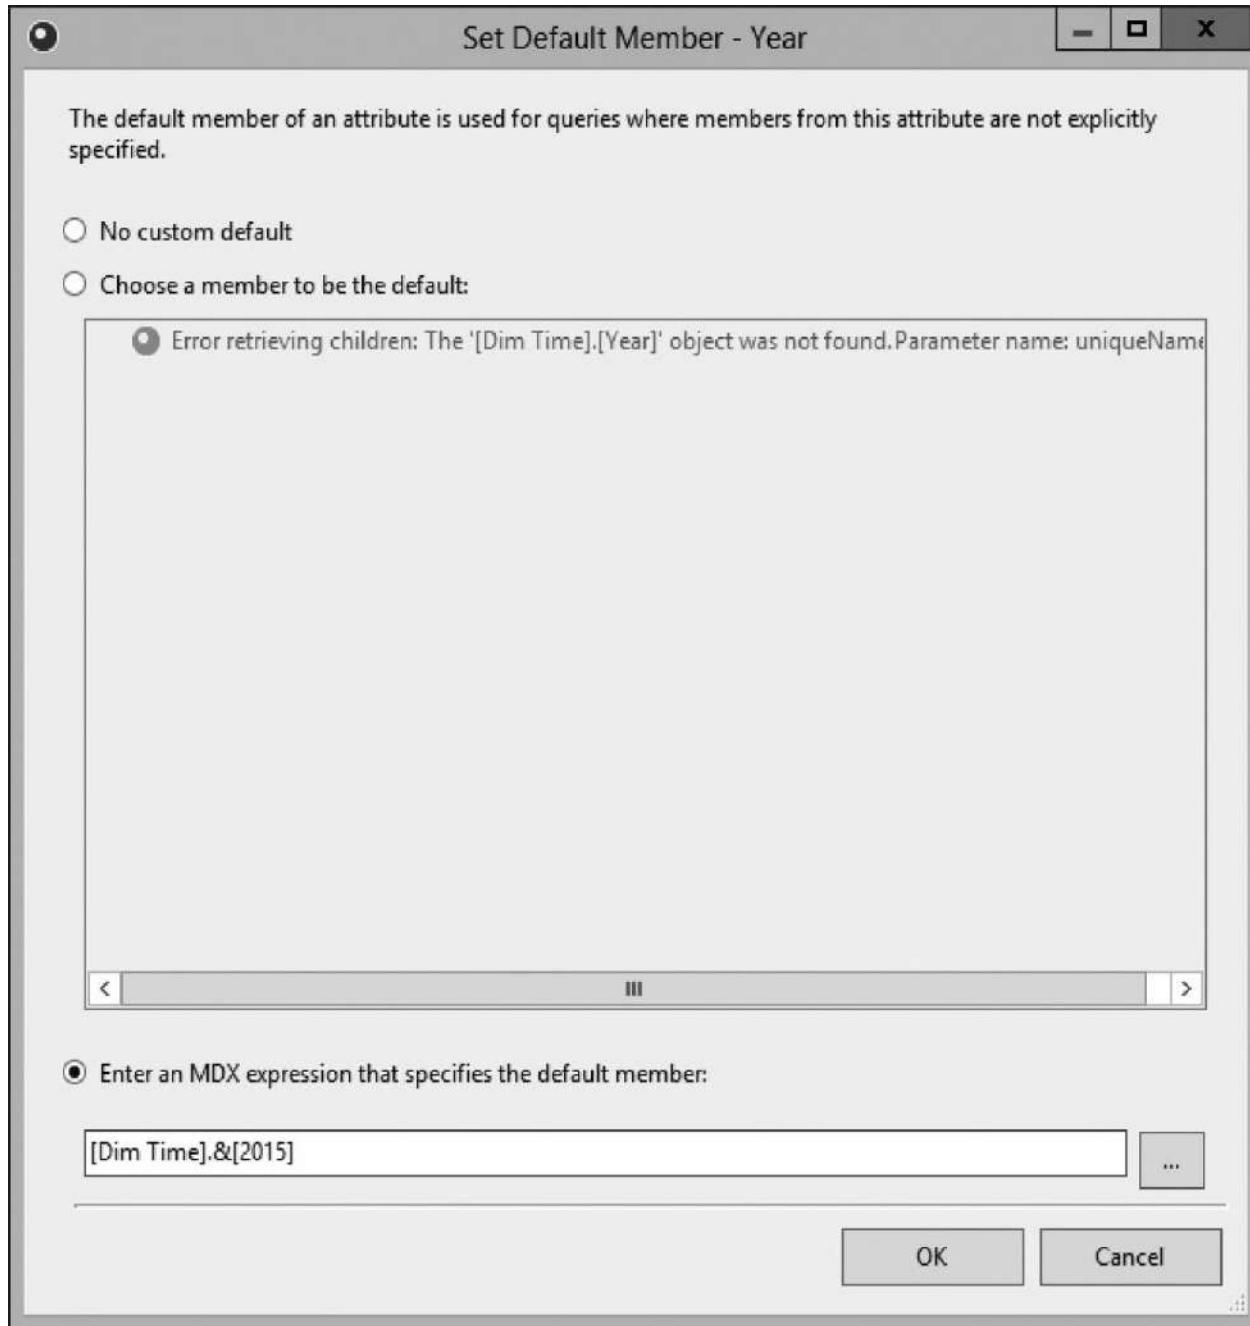

Figure 13-12 The Set Default Member dialog box
7. Enter **[Dim Time].&[2015]**. The Set Default Member dialog box appears, as shown in Figure 13-12.